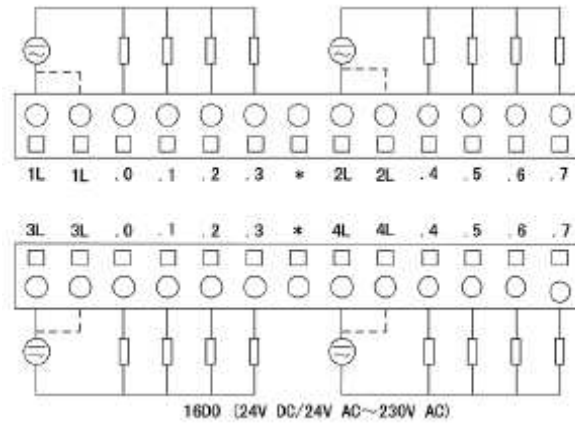

Figure 3-1-11 LM3223 Terminal Definition & Wiring
- 1L, 2L, 3L and 4L of DO channel in Figure 3-1-11 are load drive supply terminals of four groups output. It can be either DC or AC supply.
- mL is connected inside circuit board (shown by broken line in Figure 3-1-11).